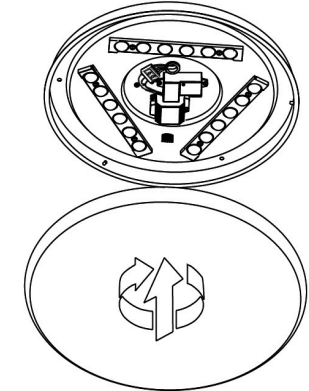

fig. 5
- fig. 5:** Put on the dome to the base plate (bayonet locking system).